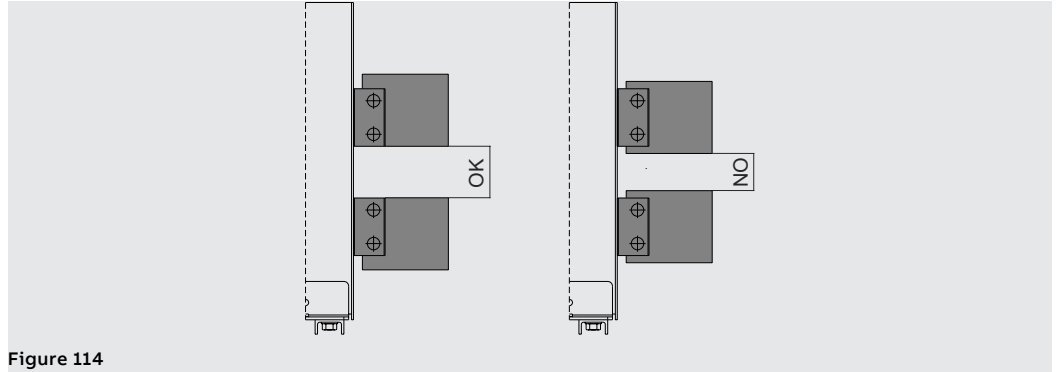

Figure 114
- Guarantee the maximum possible distance between the input and output busbars. See the example Figure 114.